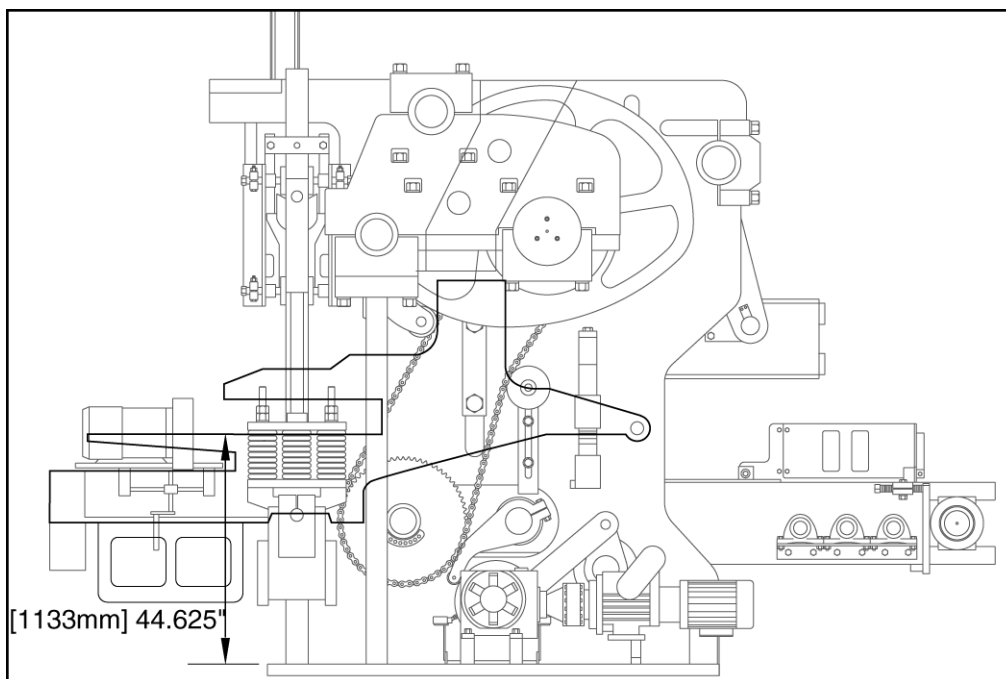

Figure 4.32 INNER FRAME ADJUSTMENT
- 4.3.2 Adjust the inner frame so that the mold throat is **1133mm [44.625"]** above the top on the base plate (figure 4.32). **83mm [3.25"]** of spacers are required. To do so, follow these procedures: